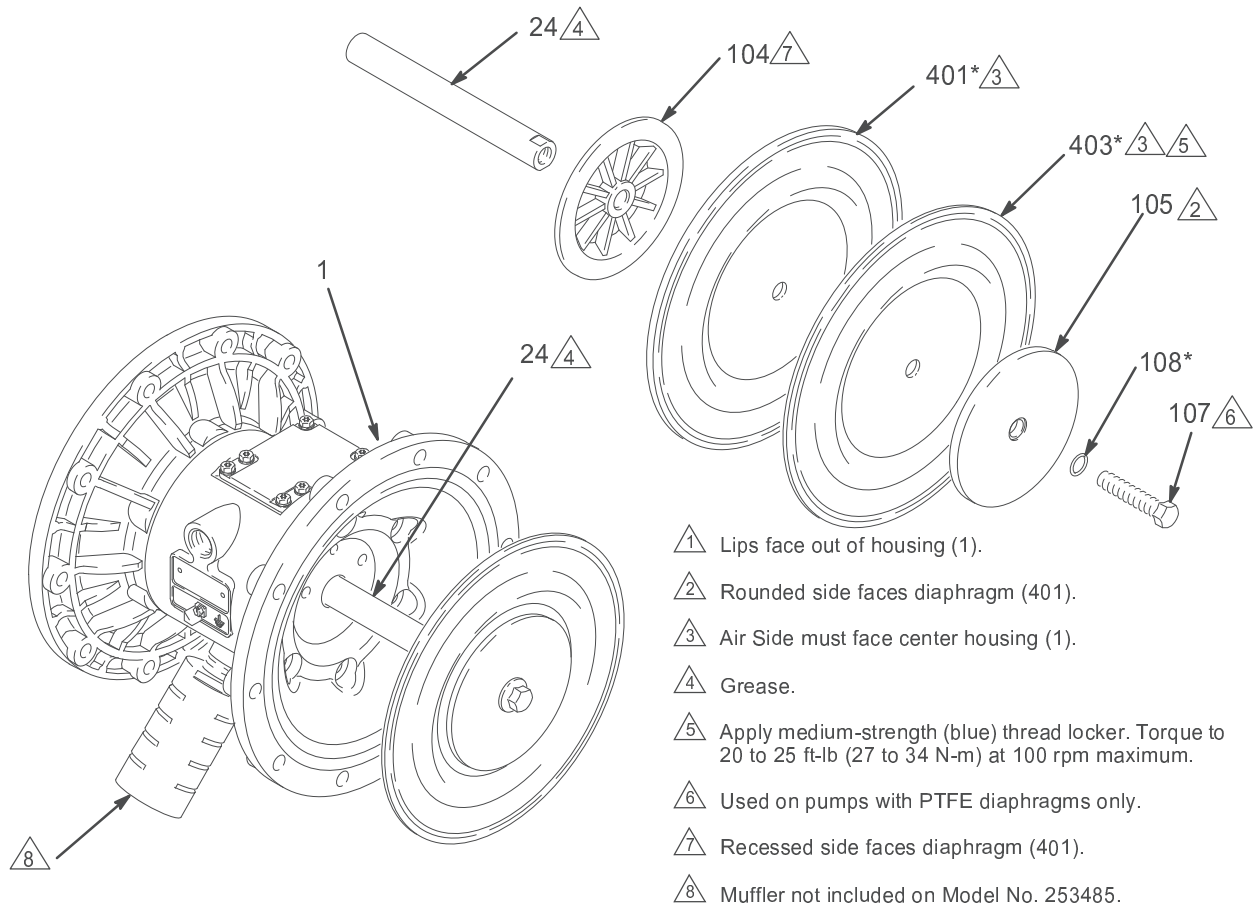

FIG. 12
- Loosen but do not remove the diaphragm shaft bolts (107), using a 15 mm socket wrench (1 in. on stainless steel models) on both bolts. *NOTE: This step does not apply to pumps with overmolded diaphragms.*
- Unscrew one bolt from the diaphragm shaft (24) and remove the o-ring (108), fluid side diaphragm plate (105), PTFE diaphragm (403, *used on PTFE models only*), diaphragm (401), and air side diaphragm plate (104). See FIG. 12.
- Install the shaft u-cup packings (402*) so the lips face **out** of the housing (1). Lubricate the packings. See FIG. 12.
- Install the diaphragm assembly on one end of the shaft (24) as follows. *For pumps with overmolded diaphragms, go directly to step g.*
6. Remove the air cover gaskets (22). Always replace the gaskets with new ones.
7. Use a bearing puller to remove the diaphragm shaft bearings (19), air valve bearings (12) or pilot pin bearings (15). Do not remove undamaged bearings.
8. If you removed the diaphragm shaft bearings (19), reach into the center housing (1) with an o-ring pick
and hook the u-cup packings (402), then pull them out of the housing. Inspect the packings. See FIG. 12.